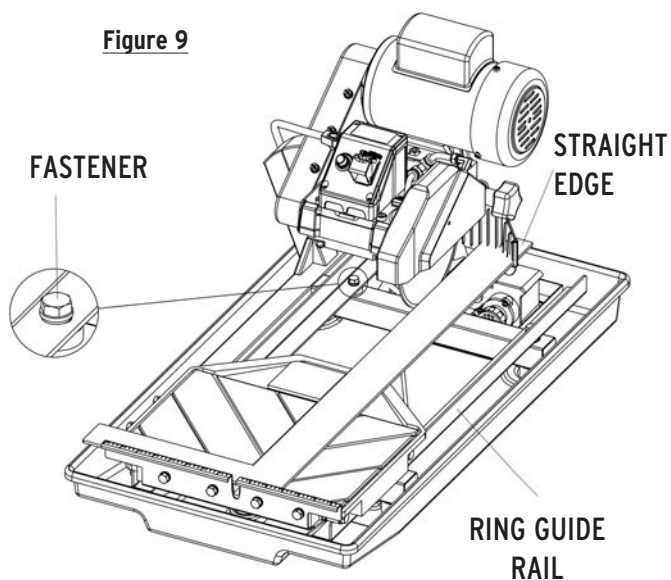

Figure 9
2. Place a straight edge (i.e. carpenter's square) on the cutting table as shown in figure 9.
3. Loosen the left and right guide rails by loosening the fasteners found at the ends of the rail. (see figure 9) The left rail should be slightly loose, so there is not too much play during adjustments, but the right rail should move freely as it will be adjusted last.